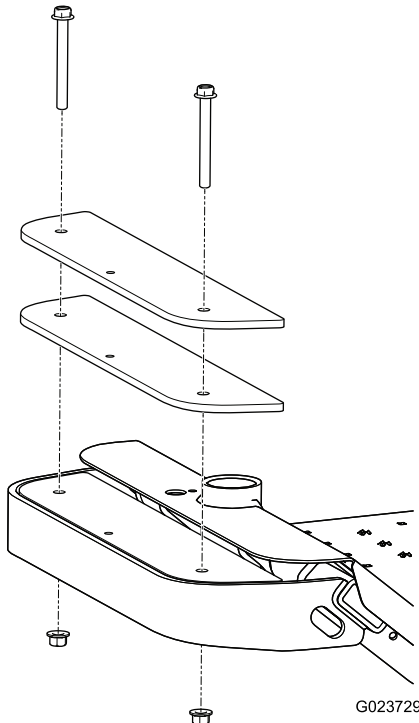

Figure 13
1. Remove the 2 bolts and 2 nuts securing the existing weights on the front of the machine (Figure 13).